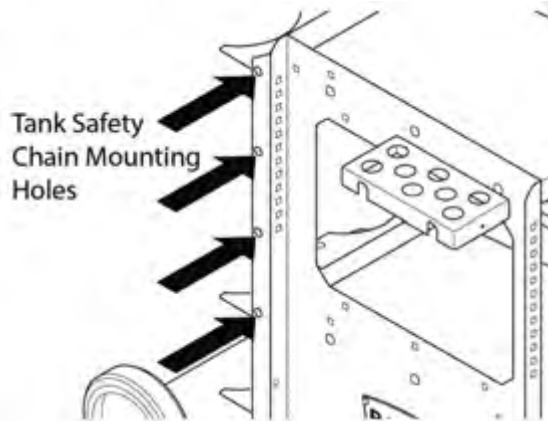

Figure 4-19
22. Attach Tank Safety Chains (item #17) to the safety chain mounting holes located on the End Panel flanges. Position the Tank Safety Chains as best suites your needs. See Figure 4-19.